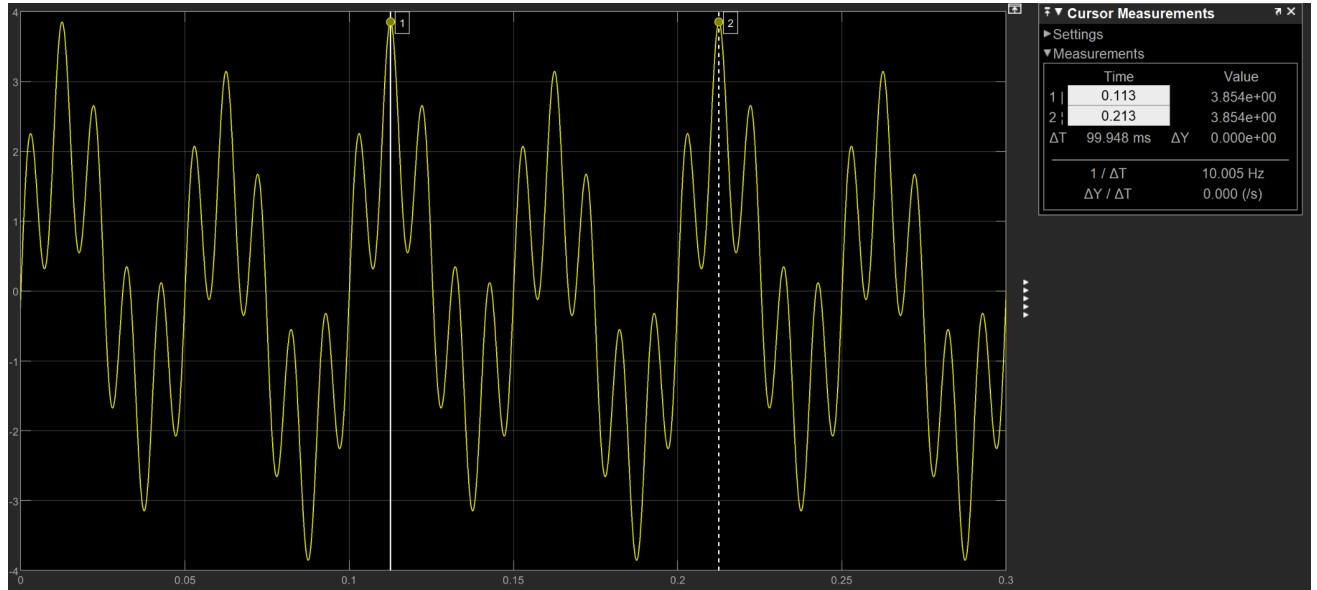
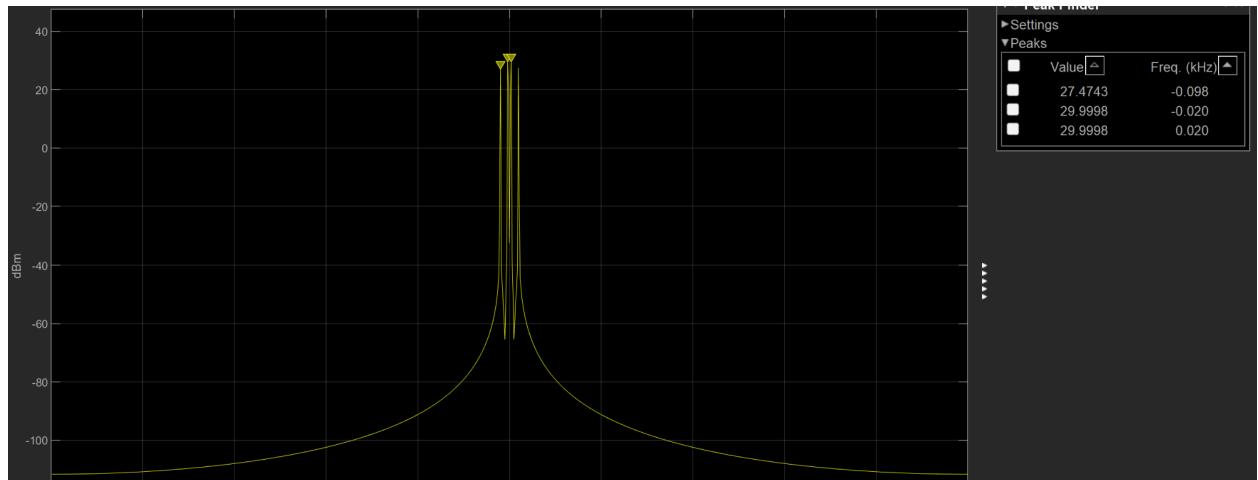

*Fig. 7: Output of the square-wave (20% duty cycle) on the Scope*
*Fig. 8: Output of the square-wave (20% duty cycle) on the Spectrum*
- 4) We then changed the duty cycle of the square wave to 20%, and observed the outputs on the Scope and the Spectrum (Fig. 7 and Fig. 8).